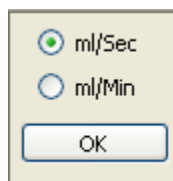

Figure 4. Flow Rate Units Menu
- 2 Select the **Flow Rate Units** menu. The flow rate units options are displayed as shown in Figure 4.